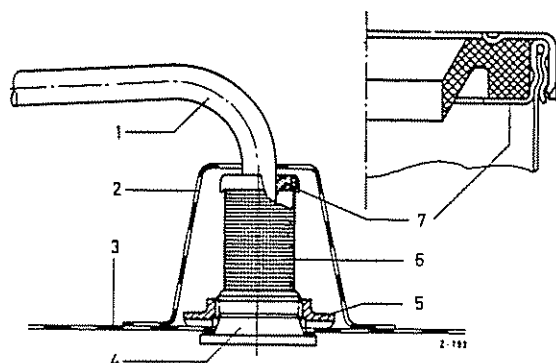

Fig. 47-1/7
A sealing ring (7) has been installed in the screw plug (4) in the upper part of the screen jacket (6). When the screw plug is screwed in, the lip of the sealing ring is pushed over the fuel suction line (1) and provides a seal against the screen (Fig. 47-1/7).